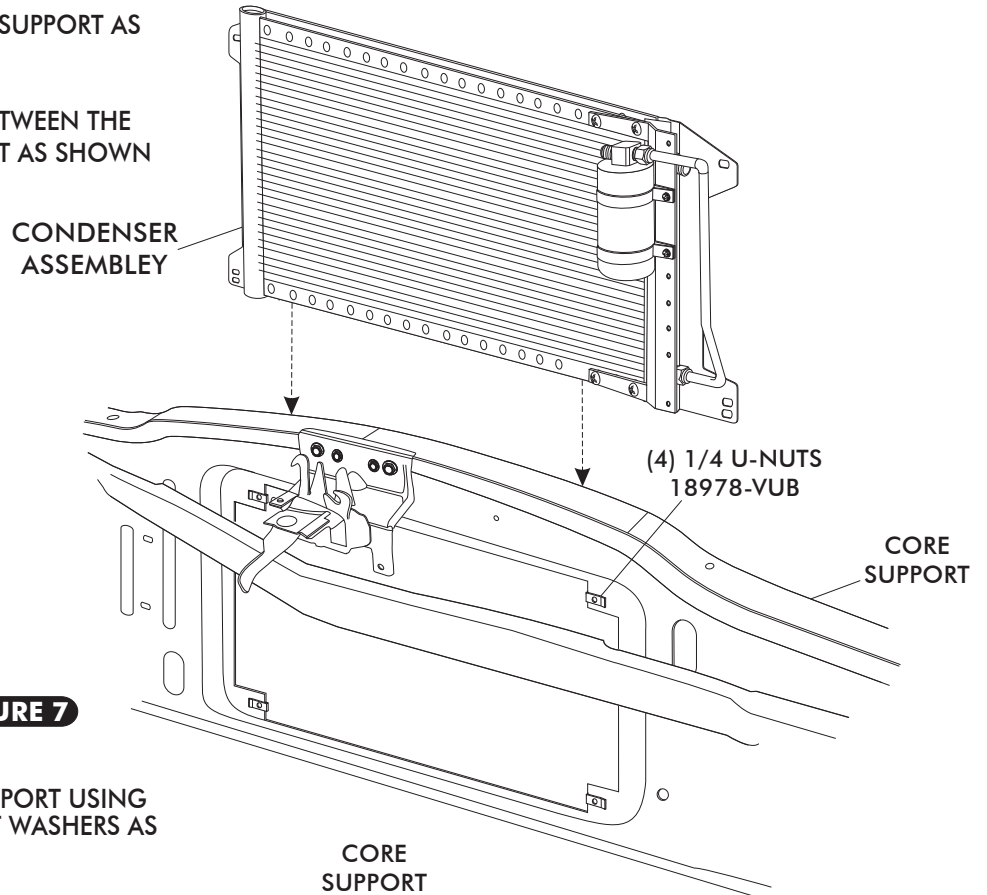

FIGURE 7
- INSTALL (4) 1/4 U-NUTS ON CORE SUPPORT AS SHOWN IN FIGURE 7.
- INSTALL CONDENSER ASSEMBLY BETWEEN THE RADIATOR AND THE CORE SUPPORT AS SHOWN IN FIGURE 7.